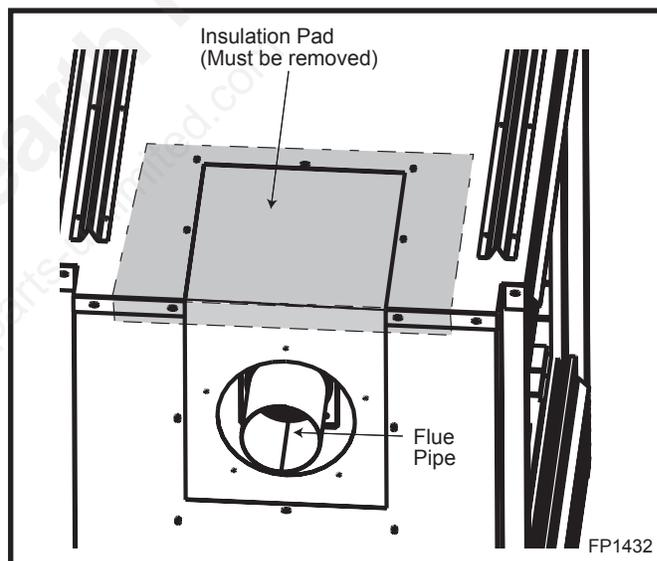

Fig. 10 Remove flue cover and pipe.
3. Remove the insulation material (exposed in Step 2) from the top of the unit. (Fig. 10) This material can be discarded; however, if the unit is converted back to rear-vent, a new piece of insulation material approved by CFM Corporation must be used for this purpose.